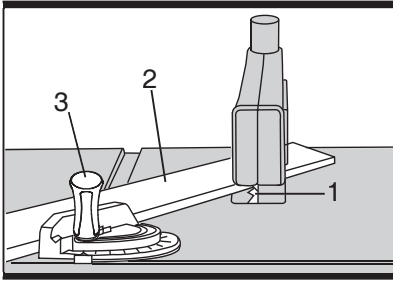

Fig 23
- 1) Set the blade (1) to 0° bevel angle and tighten the blade bevel lock knob.
- 2) Set the mitre gauge (3) at the desired mitre angle and lock in position by tightening the mitre gauge locking handle.
- 3) Hold the workpiece (2) firmly against the face of the mitre gauge throughout the cutting operation (See fig. 23).